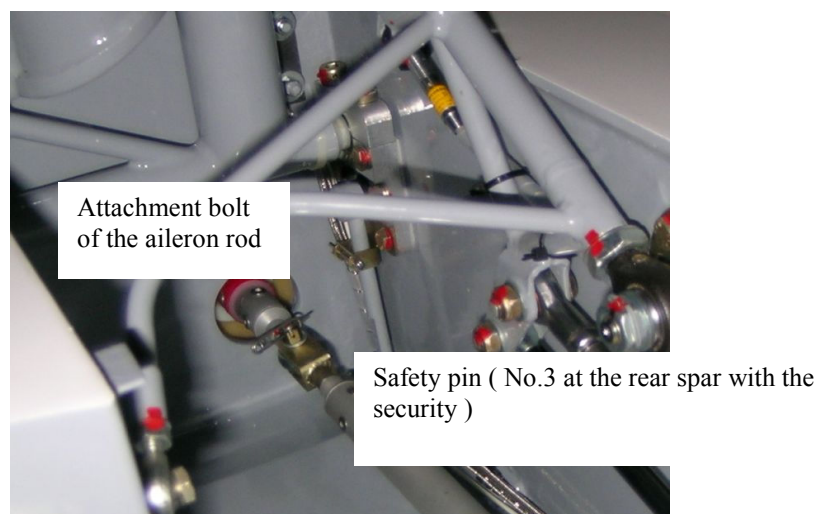

Fig. 4. Connecting bolt + safety pin of aileron connection.
4. Insert rear spar into the fitting to locate the rear spar to the centre section. Secure all 6 pins with safety pins (Fig.4).
7. Connect the aileron control rod with the rod in the wing centre section and secure the nut (Fig.4) with the safety pin. Then tight the fuel houses clamps.